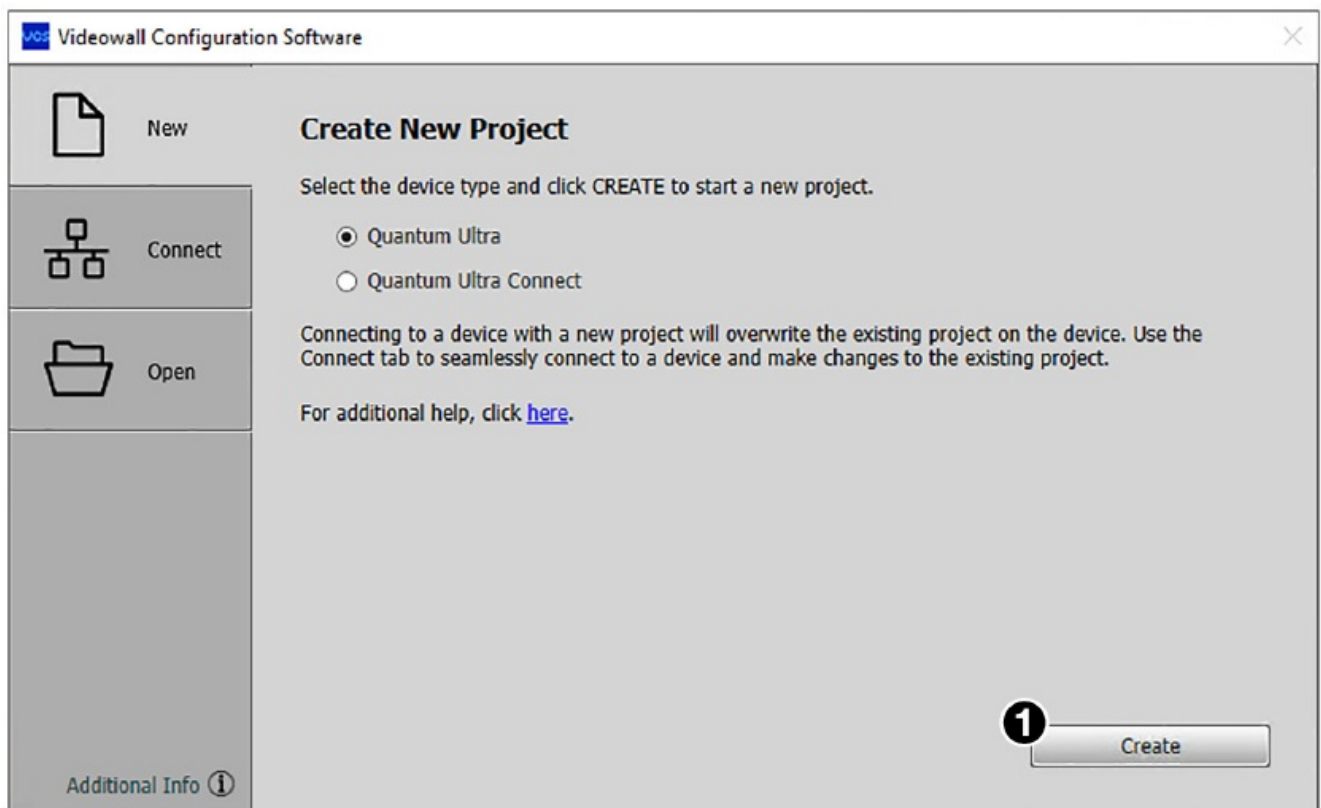
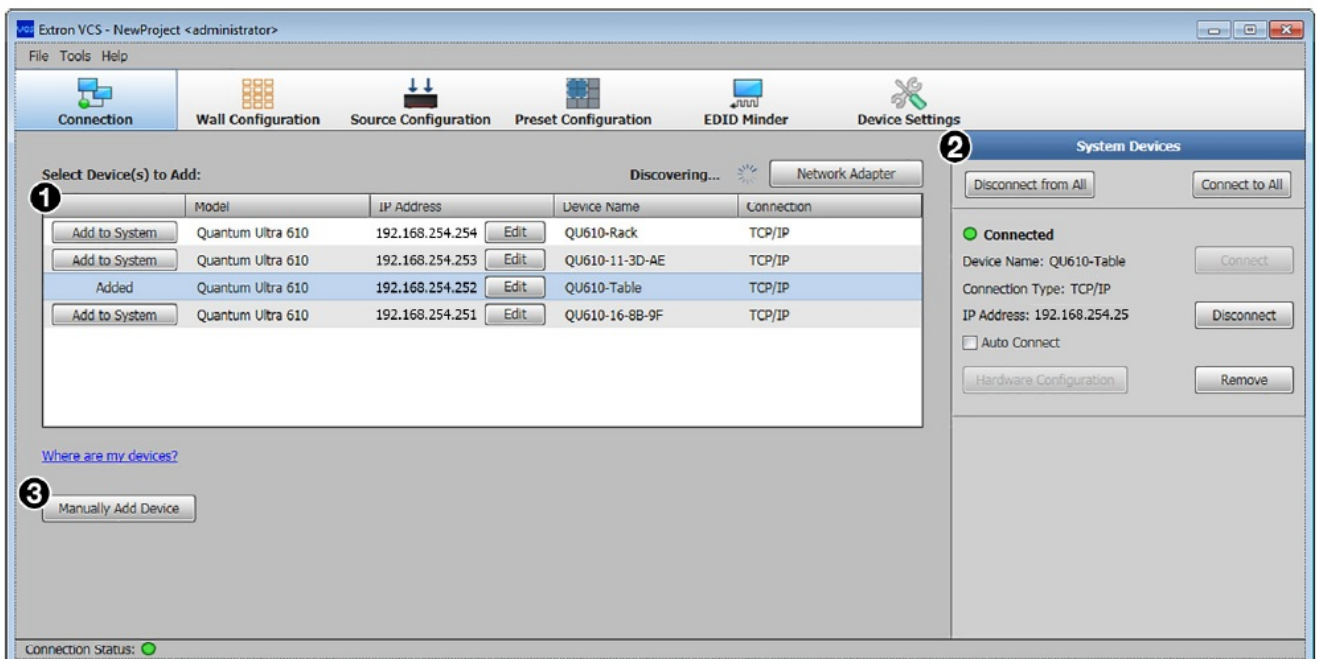

Figure 5. VCS Start Screen, Create New Project Tab
Figure 6. Connection Screen
2. Open the software program either by double-clicking the VCS icon (shown at right) that is placed on your desktop during installation, or by clicking Start > Extron Electronics > Videowall Configuration Software. The Extron VCS program opens with the Start screen, Create New Project tab (see figure 5 on the next page) and a list of devices supported by the current version of VCS.
3. Select the radio button for your device and click the Create button (see figure 5, 1). VCS searches for Quantum Ultra Series devices that are on the network. The Connect to Device screen is displayed. The Select Device(s) to Add panel (see figure 6, 1, on the next page) displays all detected devices of the type selected on the Create New Project screen.
computer is successfully connected to the device, the word Connected is displayed, preceded by a green dot, in the System Devices panel (see figure 6, 2).
- 1. Click the Manually Add Device button (see figure 6, 3 on the previous page). The Manually Add Device window opens (shown at right).
- 4. Click Add. The connection information for the device is displayed in the System Devices panel (see figure 6, 2
Click the Add to System button in front of the Quantum Ultra Expansion line (2) to add the expansion chain to the System Devices panel (see figure 6, 2 on page 6).
1. On the New Project connection screen, click the Manually Add Device button (see figure 6, 3 on page 6).